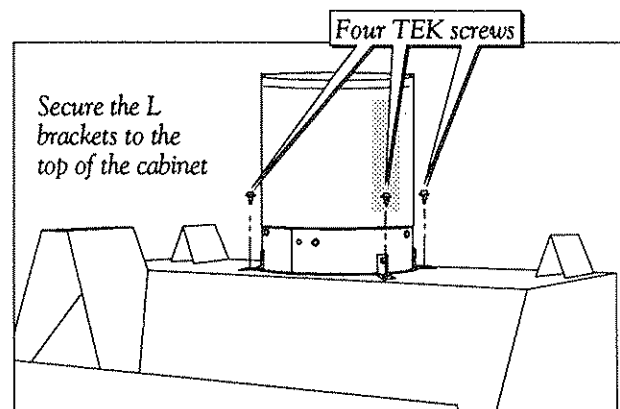

Figure 27. Attach inner chimney assembly to the fireplace.
Step 6. Set the inner chimney pipe assembly into position **over** the flue opening and secure the brackets to the top of the cabinet with TEK screws. You may apply a bead of high temperature silicone caulk to the outer adaptor. Figure 27.